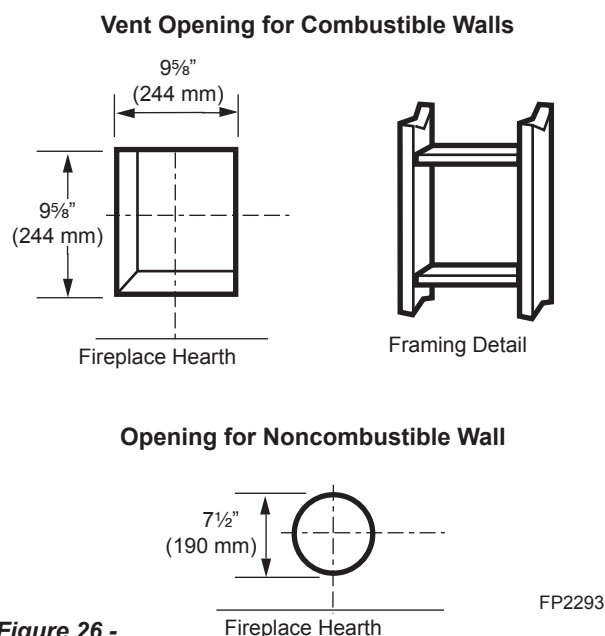

Figure 26 -
Locate vent opening on the wall. It may be necessary to first position the fireplace and measure to obtain hole location. Depending on whether the wall is combustible or noncombustible, cut opening to size. *Figure 26* (For combustible walls first frame in opening.)
Combustible Walls: Cut a 9⁵/₈" H x 9⁵/₈" W (244 x 244 mm) hole through the exterior wall and frame as shown. *Figure 26*
1. Establish vent hole through the wall. *Page 22, Figure 26*